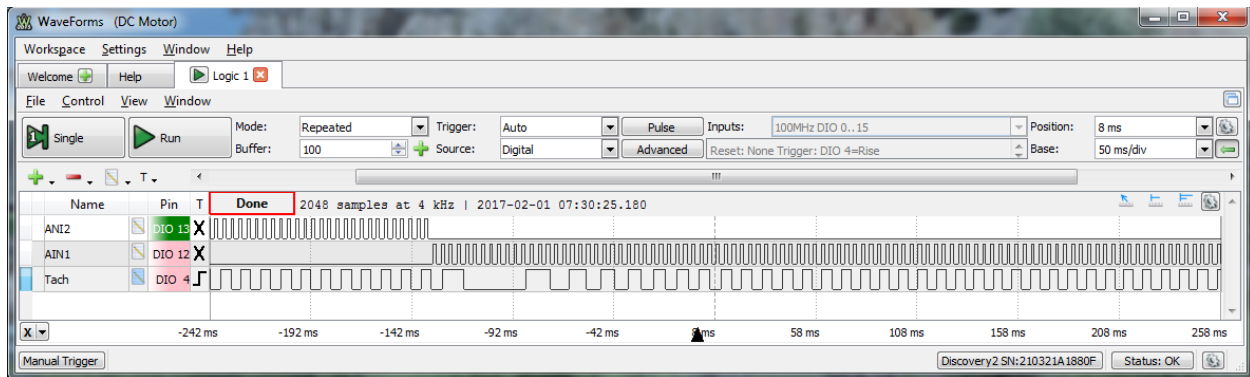

Figure 7.1. Motor speed response for a step input from CW to CCW at 30% PWM for PI closed-loop control.
Figure 7.1 was generated by monitoring the motor tachometer using the SPI_CK DIO 4 pin on the Analog Discovery 2 connector that is toggled in the input capture ISR, as shown in Listing B.4 of Lab 6a. Examining the plot for the tachometer in Fig. 7.1, we see that the PI algorithm requires about 150 ms to achieve steady state.
2. Why does Fig. 7.1 show that the motor decelerates more quickly than accelerate?